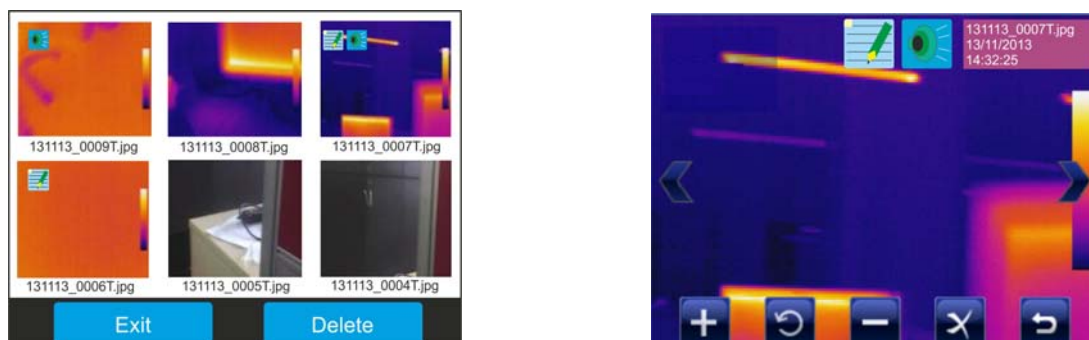

Fig. 65: Recalling on the display the images saved
1. Touch the icon “” in the main menu. The following screen appears (see Fig. 65 – Left side):
4. Touch an image in the gallery to see it again. The screen Fig. 65 – Right side is shown on the display. The meaning of the symbols is the following: